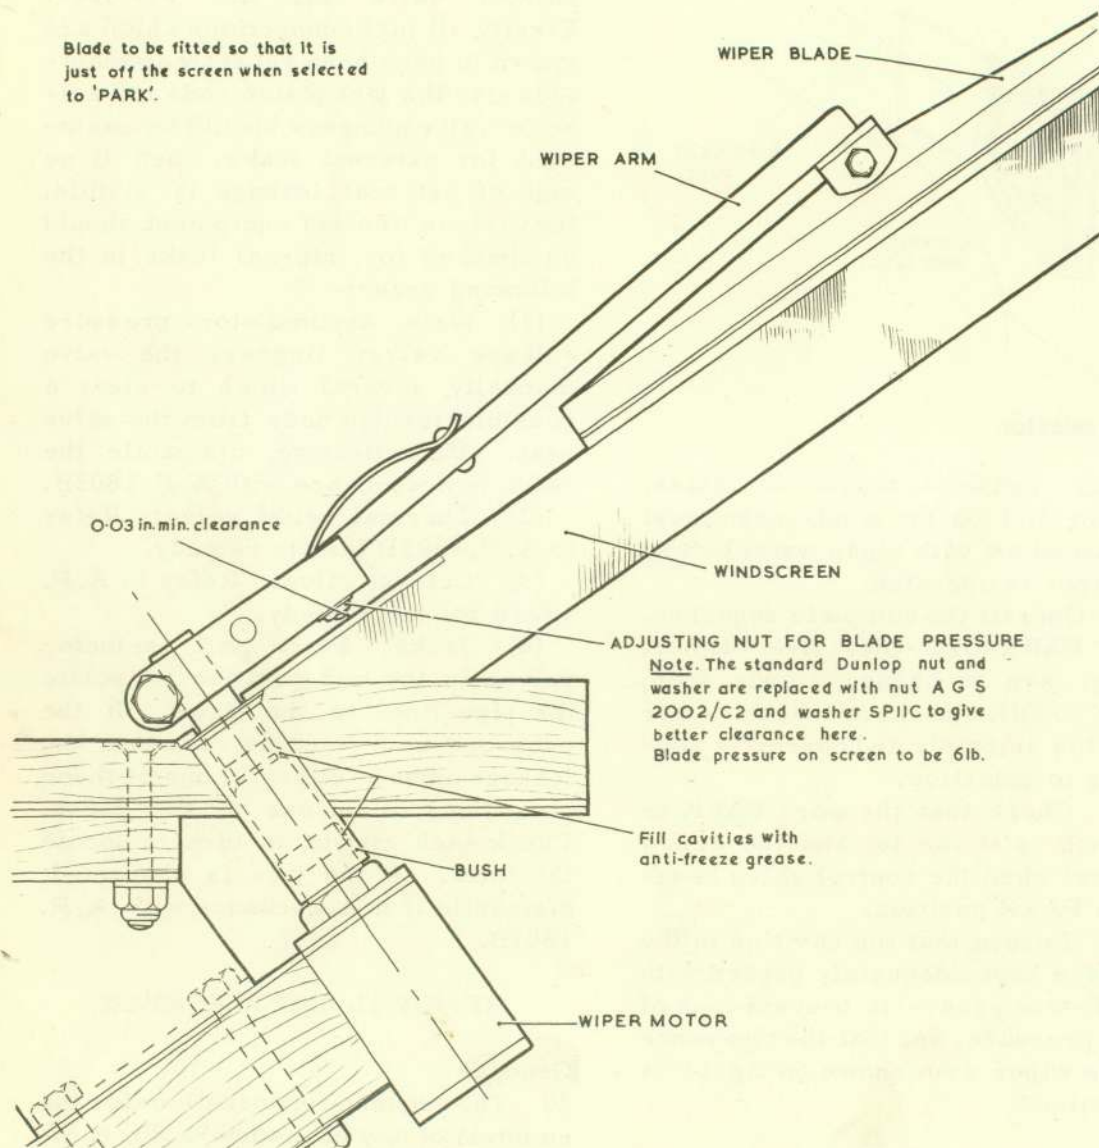

Fig.11 Windscreen wiper fitting, pre mod 3617
(2) Operate the complete sequence, i.e., PARK-OFF-ON, five times, taking care to change slowly from PARK to ON, and check that the wiper operates smoothly and correctly according to selection.
(3) Check that the word PARK on the knob is at the top and the arrow vertical when the control valve is set to the PARK position.
(4) Ensure that the cavities in the seal are kept adequately packed with anti-freeze grease to prevent loss of cabin pressure, and that the clearance on the wiper arm shown on fig. 11 is maintained.